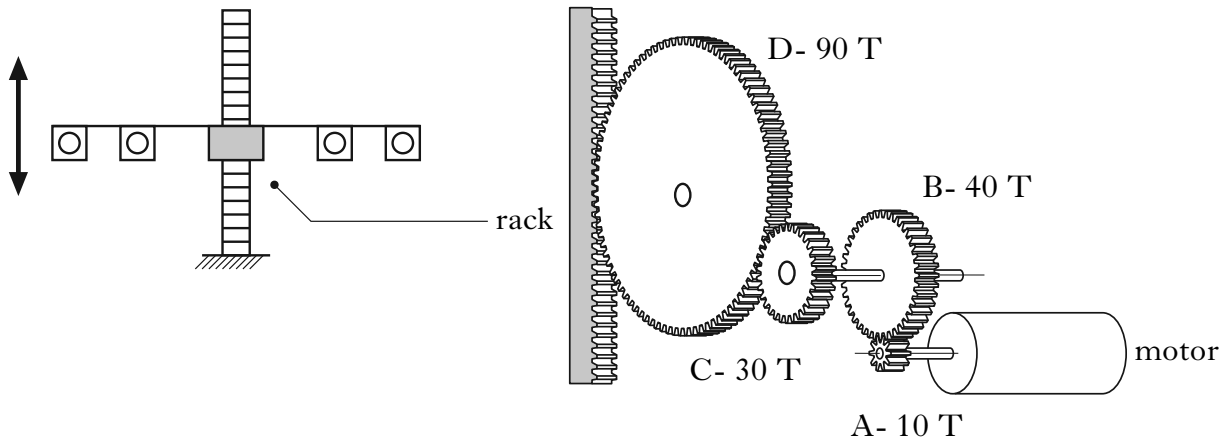

Figure Q11(a)
A motor is used to raise the carriage to position A using the drive mechanism shown in Figure Q11(c).
11. A motorised system used to raise and lower a lighting gantry is shown in Figure Q11(a).